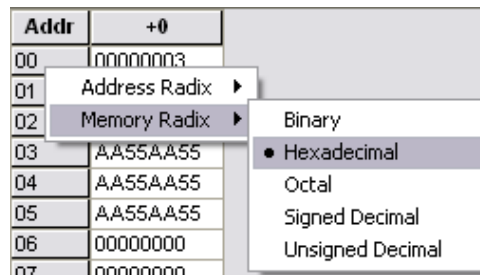

Figure 9: Change the radix of the ROM data to hexadecimal.
- Change the radix of the data to hexadecimal as shown on Figure 9.